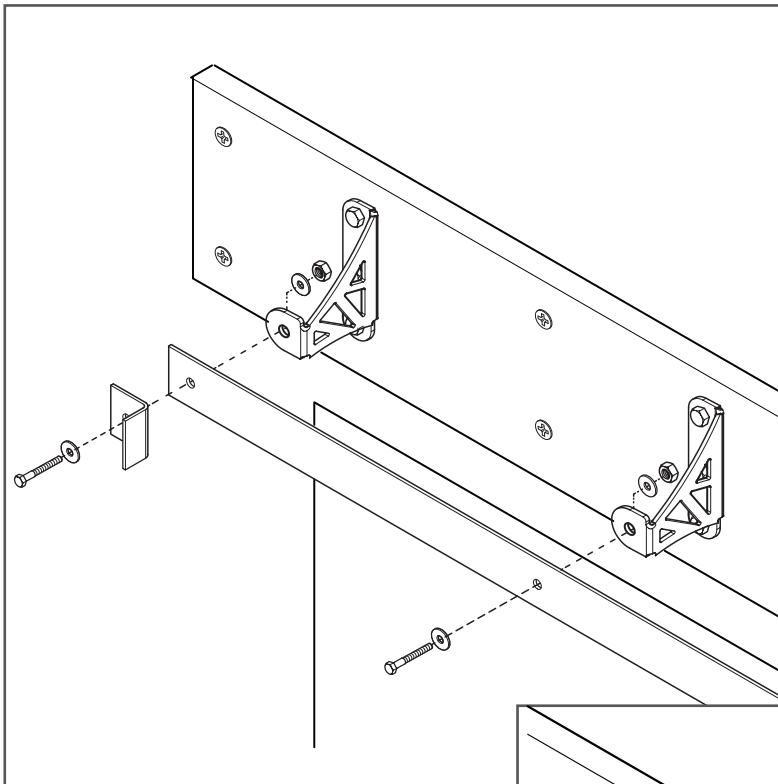

Figure 10
11. Beginning with the end spacer on either end of the header, install the track using a socket wrench and combination wrench and one hex bolt (C.), two washers (D.), one nut (E.), and one hard stop (G.) (Figure 10). Do not tighten.